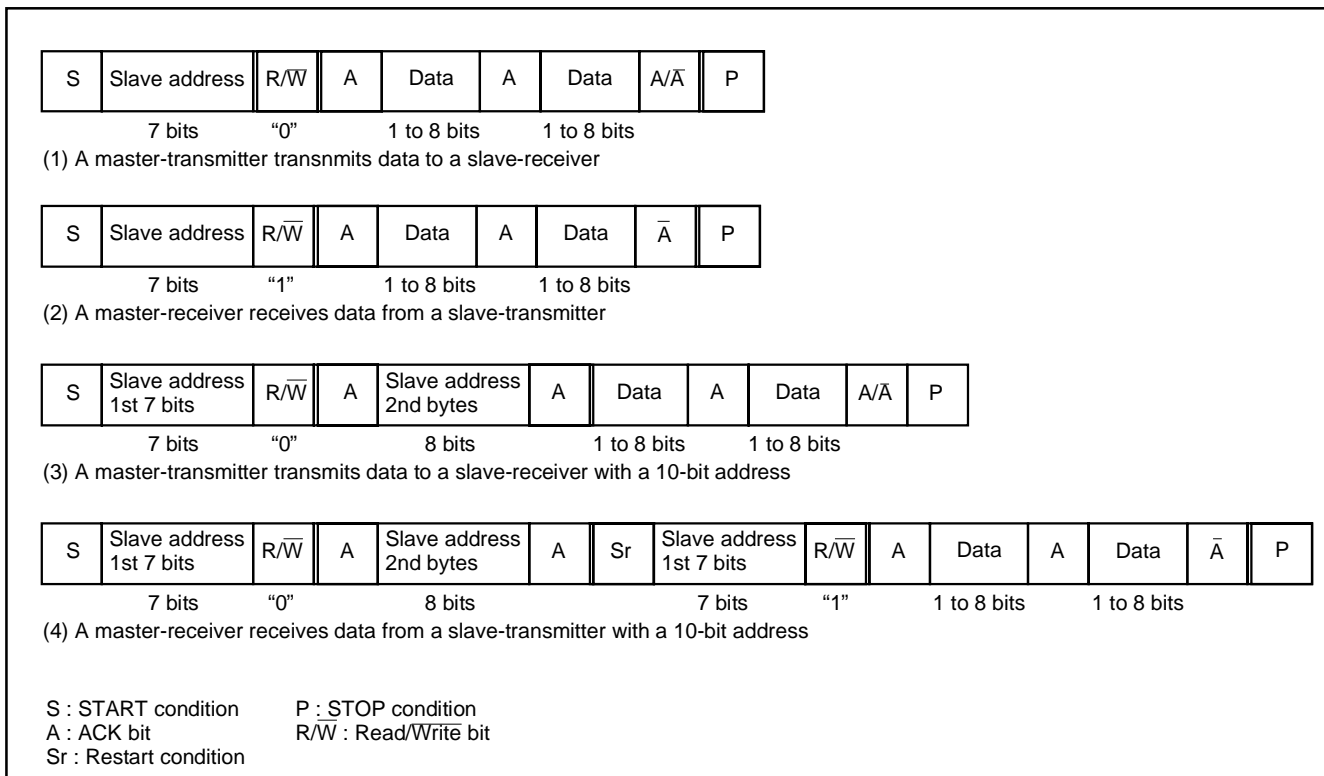

Fig. 42 Address data communication format
① 7-bit addressing format
To adapt the 7-bit addressing format, set the 10BIT SAD bit of the I²C control register (S1D) to "0". The first 7-bit address data transmitted from the master is compared with the high-order 7-bit slave address stored in the I²C address register (S0D). At the time of this comparison, address comparison of the RWB bit of the I²C address register (S0D) is not performed. For the data transmission format when the 7-bit addressing format is selected, refer to Figure 42, (1) and (2).
② 10-bit addressing format
When the first-byte address data agree with the slave address, the AAS bit of the I²C status register (S1) is set to "1". After the second-byte address data is stored into the I²C data shift register (S0), perform an address comparison between the second-byte data and the slave address by software. When the address data of the 2 bytes agree with the slave address, set the RWB bit of the I²C address register (S0D) to "1" by software. This processing can make the 7-bit slave address and R/\bar{W} data agree, which are received after a RESTART condition is detected, with the value of the I²C address register (S0D). For the data transmission format when the 10-bit addressing format is selected, refer to Figure 42, (3) and (4).